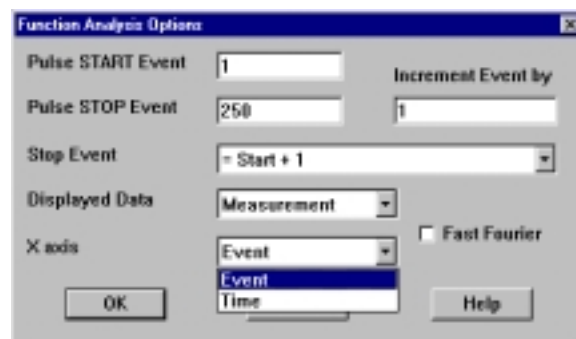

**Figure 4.21 Function Displayed Data**
- **Displayed Data:** Select method of displaying data (See Fig. 4.21):